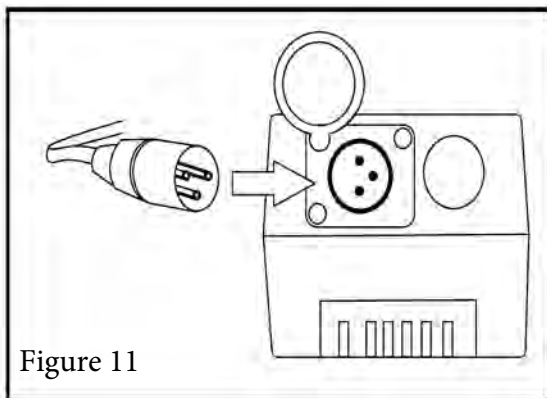

Figure 11
3. Insert the matching charger plug into the controller's charging socket that is located at the front of the controller or alternatively into the battery pack. See figures 11 and 12.